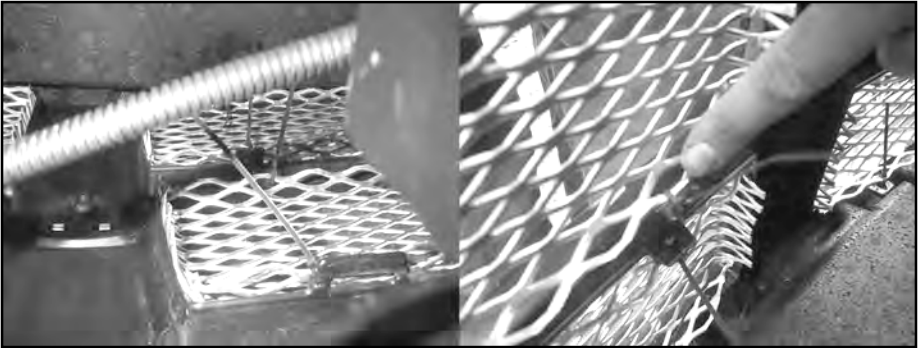

Figure 10. Location of upper fastening points.
4.2) Fit and secure the top grilles. The top sets are installed in the same fashion **Fig. 10**. After fully tightening the ties, remove the tails with a pair of scissors or snips.